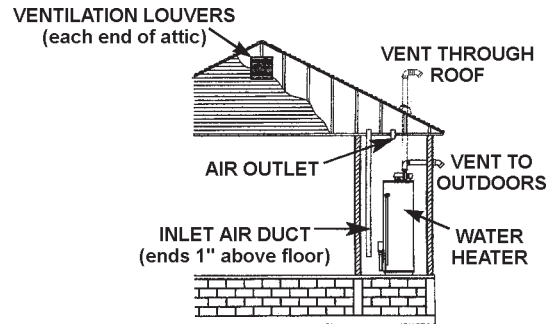

FIGURE 14.
2. When communicating with the outdoors through vertical ducts, each opening shall have a minimum free area of 1 square inch per 4,000 Btu per hour (5.5 cm²/kW) of total input rating of all equipment in the enclosure, see Figure 14.